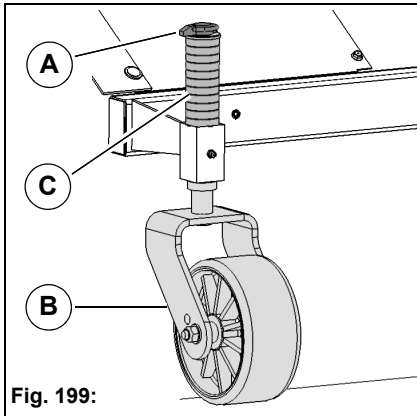

Fig. 199:
2. Remove the split-pin **Fig. 199-A** from the bolt of the wheel fork and withdraw the supporting wheels **Fig. 199-B** downwards.
3. Adjust the sweeping level with the washers **Fig. 199-C** on both supporting wheels. For optimum sweeping effect the bristles should press over the ground approx. 20 mm.